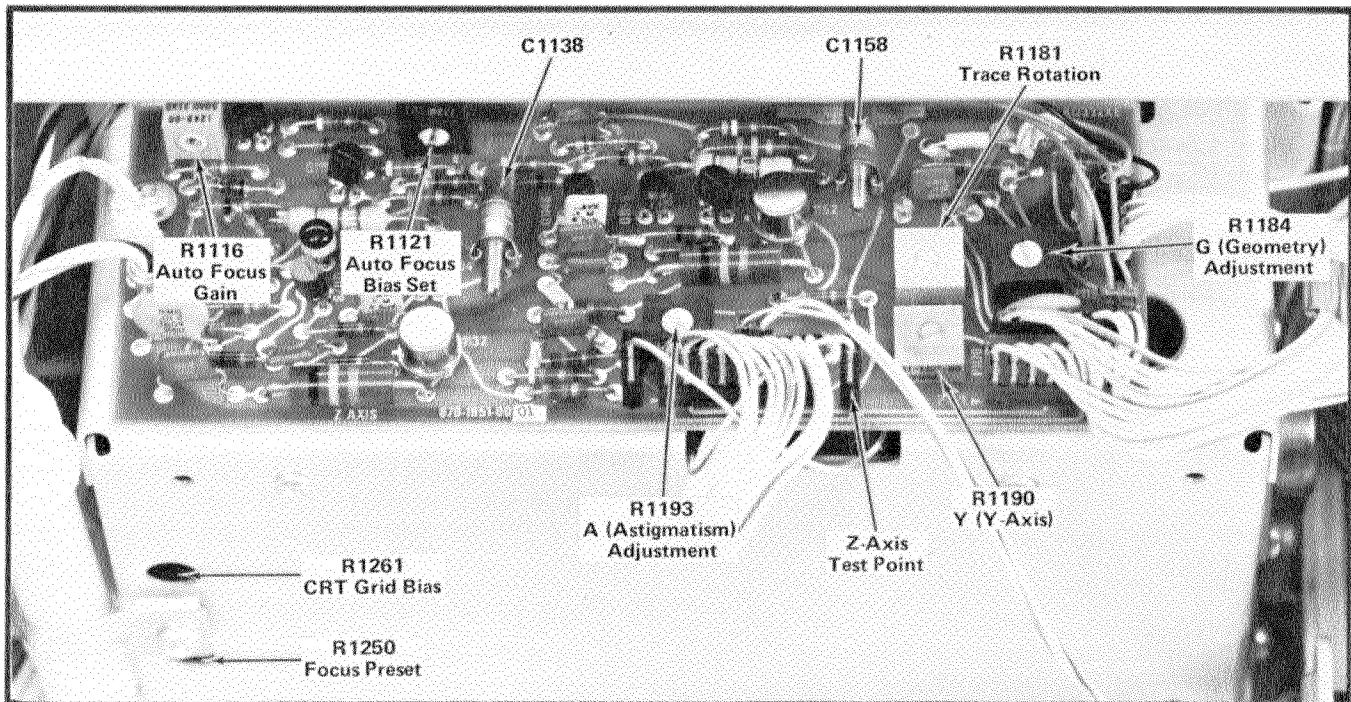

Fig. 3-2. Location of Display and Z Axis adjustments and test points.
- d. Connect a 10X probe from the test-oscilloscope to the Z-Axis test point (see Fig. 3-2) and the probe ground lead to chassis ground.
g. ADJUST—CRT Grid Bias adjustment R1261 (see Fig. 3-2) until the trace on the 7603 is just extinguished. Set INTENSITY for a viewable trace.
- ADJUST—FOCUS control and A (Astigmatism) adjustment R1193 (see Fig. 3-2) to obtain best display definition.
d. ADJUST—Trace Rotation adjustment R1181 (see Fig. 3-2) to align the trace with the center horizontal line.
d. ADJUST—Y-Axis adjustment R1190 (see Fig. 3-2) to align the trace with the center vertical line.
l. ADJUST—Geometry adjustment R1184 (see Fig. 3-2) for minimum bowing of time markers. Adjustment may have to be compromised to obtain less than 0.1 division bowing and tilt everywhere within the graticule area.